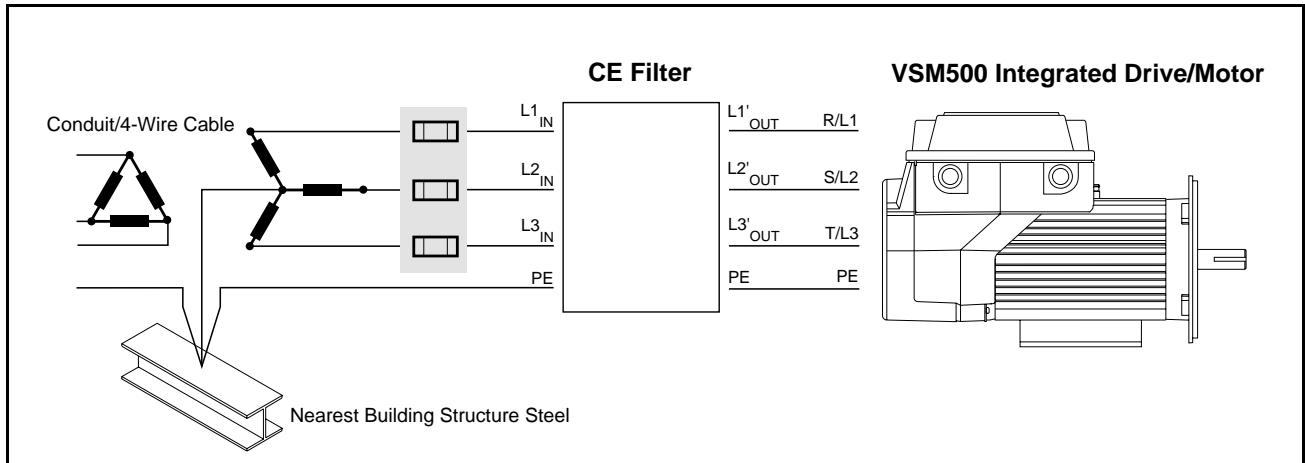

Figure 5 – Wiring the External Mount CE Filter
Step 2. Connect the filter between the incoming AC supply line and the drive input terminals as shown in figure 5 and figure 6.
Important: The filter may cause ground leakage currents. Therefore, a solid ground connection must be provided as shown in figure 5.